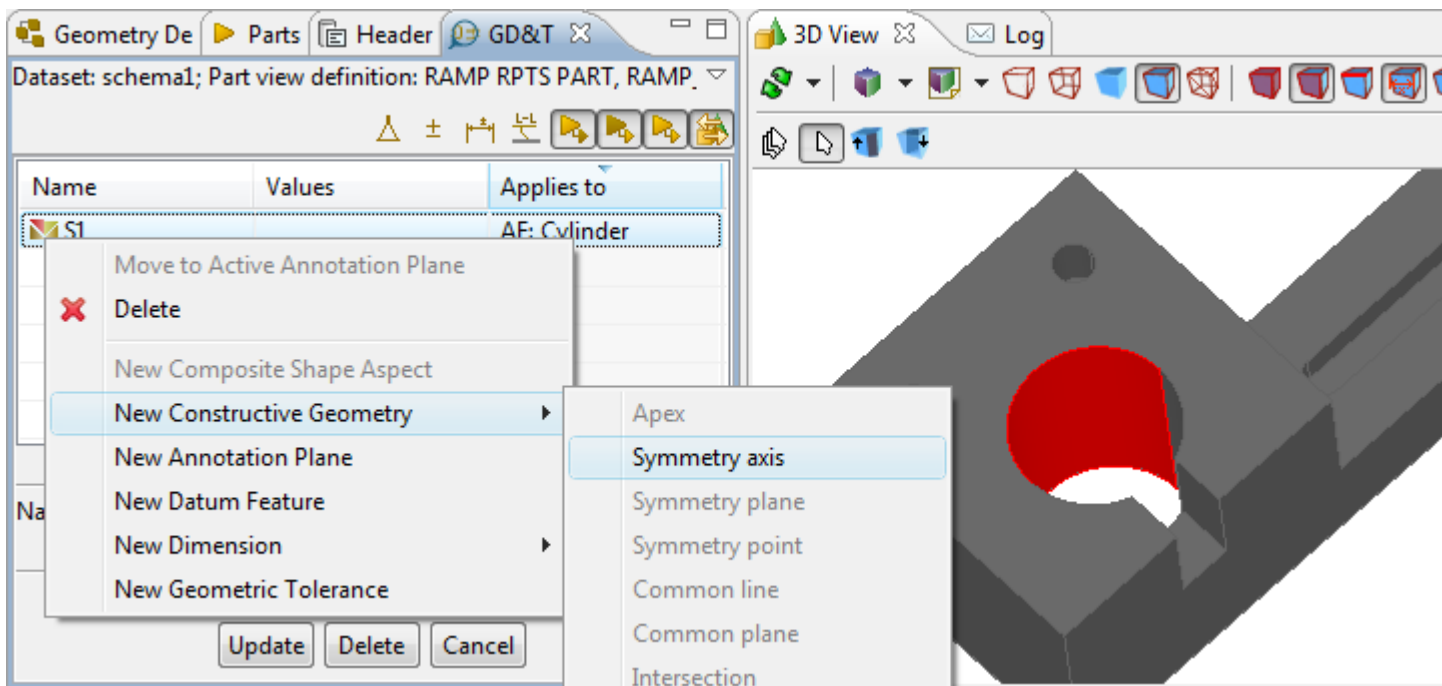

Figure 1. Selected cylinder shape aspect, menu item to create symmetry axis and cylinder geometry presentation in 3D View
- Right click and select **New Constructive Geometry -> Symmetry axis** item in the appeared context sensitive menu (see Figure 1).